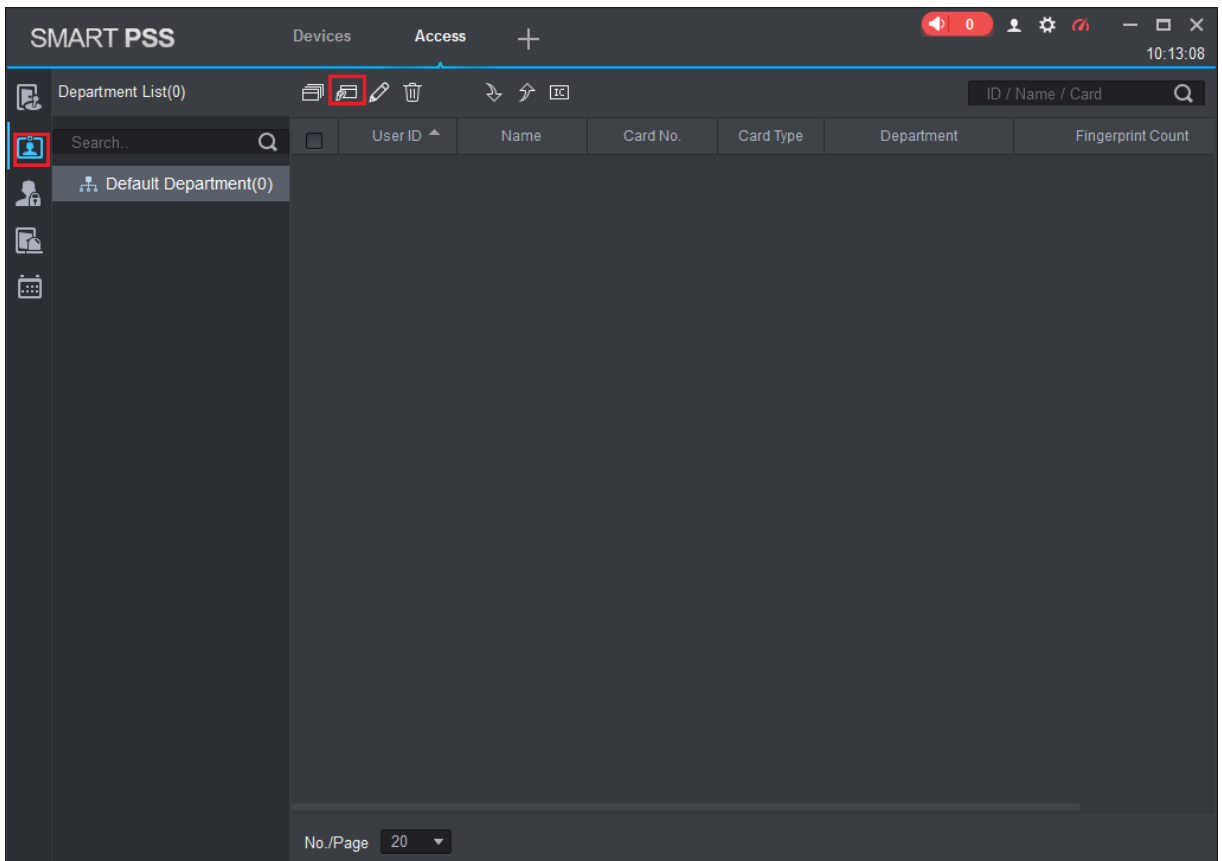

Figure 2-1
Step 1 Login SmartPSS client, click  in “Access” interface, and then click  in the displayed interface, as shown in Figure 2-1.